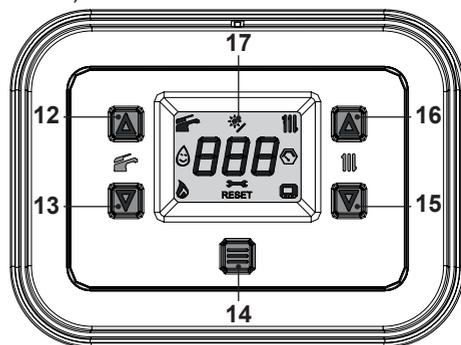
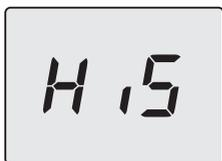

Fig. 8.9
Fig. 8.10
- Enter “programming mode” by pressing the 13 and 15 keys simultaneously for 5 seconds (Fig. 8.9) until **HiS** (Boiler History) appears on the LCD display (Fig. 8.10).
- Press the 14 key for 1 second (Fig. 8.9) to enter the selected parameter. The display will show the following (Fig. 8.13).
- Press button 14 (Fig. 8.9) to confirm the value entered. The display will show the following (Fig. 8.15) for 5 seconds, then move up to the next level.
- Press the keys 13 and 15 simultaneously (Fig. 8.9) to exit the level without changing the value (return to the previous level).
- press the 13 and 15 keys simultaneously for 5 seconds (Fig. 8.9) (return to previous level).
However, if the ambient temperature is not comfortable, the flow temperature of the heating system can be increased or reduced by $\pm 15^\circ\text{C}$ by pressing the keys 15 (reduce) and 16 (increase) (Fig. 8.9).